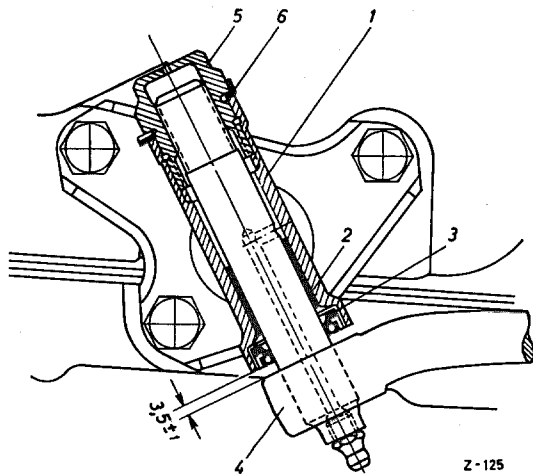

Fig. 46—11/1
2. Unscrew the three hexagon screws and lock washers from the pivot bearing and take the pivot bearing with the steering relay arm off the front axle support (Fig. 46—11/1).
3. Tap up the locking plate (6) of the cover plate (5) and screw out the cover plate.
4. Then pull the steering relay arm (4) out of the pivot bearing (1).
9. Insert the steering relay arm (4) in the pivot bearing (1) and screw on the cover plate (5) (use a new locking plate), so that in the straight-ahead position a distance of 3.5 ± 1 mm remains between the steering relay arm and the pivot bearing (Fig. 46—11/1).
11. Once again check the height adjustment of the steering relay arm. When the adjustment is correct, tighten up the cover plate (5) and tap over the locking plate (6) (see Fig. 46—11/1).